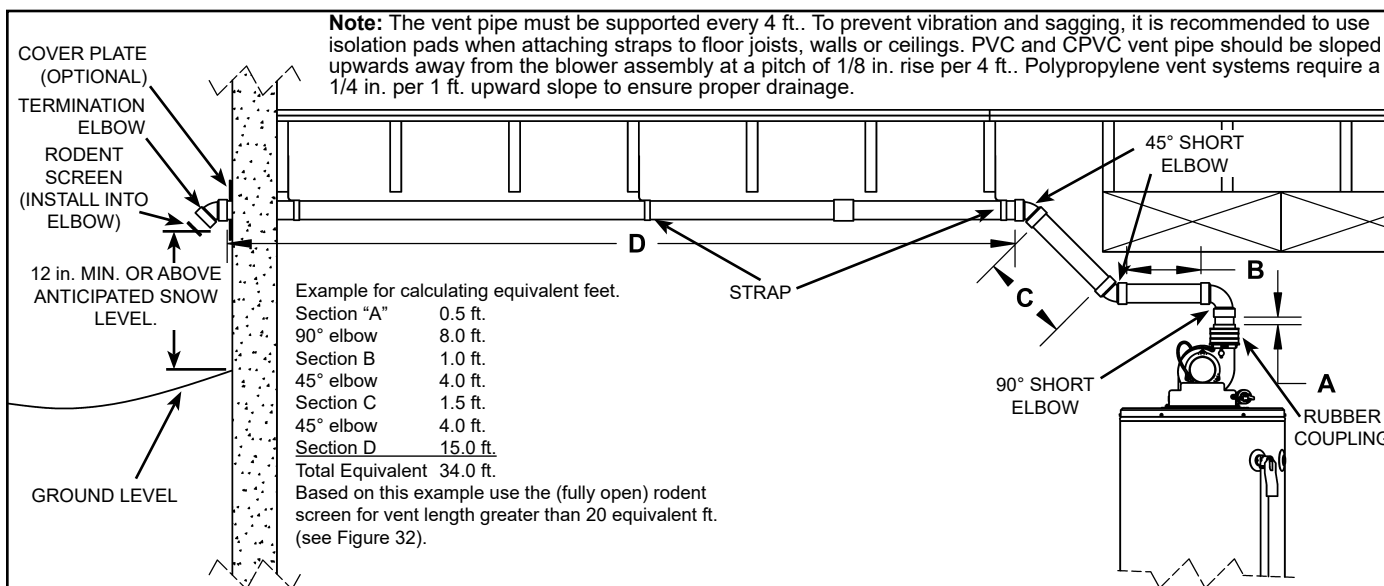
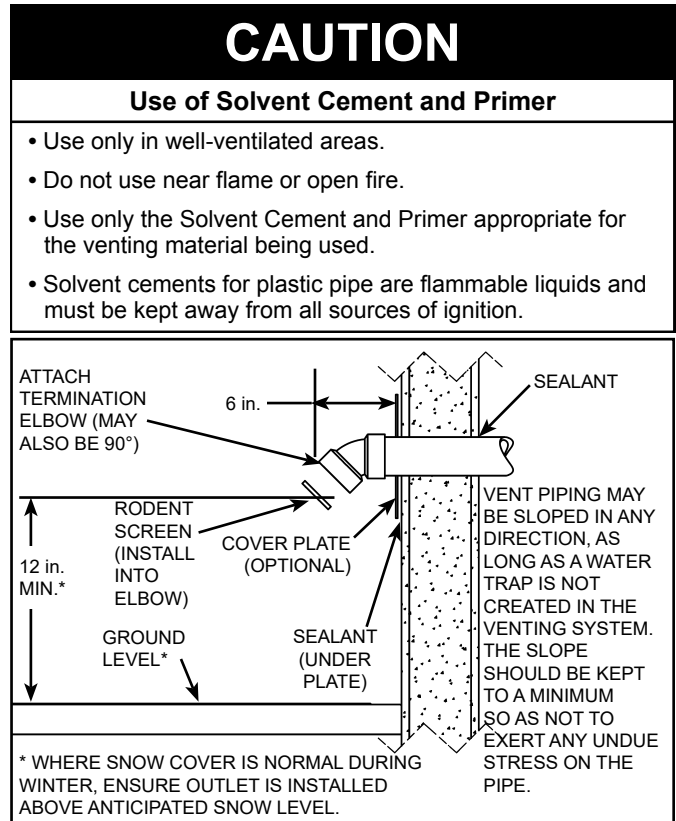

Figure 33.
Figure 34.
This heater is designed to exhaust the products of combustion (flue gases) to the outdoors using a sealed piping system. Table 2 lists the allowable vent materials and sizing information. Figure 33 shows the general venting layout while Figure 34 through Figure 36 show various end termination details and clearances. Connection of the venting piping to the blower is shown in Figure 37 through Figure 39.
5. Calculate "Equivalent Vent Length" before starting. Do not exceed the values shown in Table 2. An example of how this length is determined is shown in Figure 33. The value from your calculations should also be used to determine which rodent screen to install into the vent termination elbow.
9. Insert the vent piping through this hole and secure into position. Connect the vent pipe to the end termination elbow as shown in Figure 34 through Figure 36.